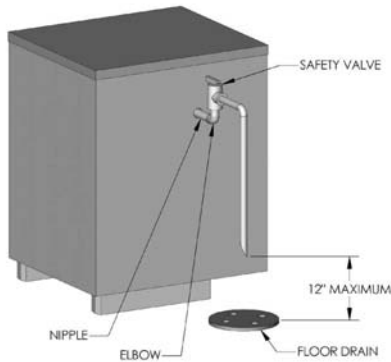

Figure 6.4
- a. Pipe the boiler safety valve provided into the 3/4" tapping on the left side of the boiler as shown in Figure 6.4. Be sure that the relief valve is sized in accordance with local code requirements. In addition, be sure that the safety valve is designed and stamped in accordance with the ASME Boiler and Pressure Vessel Code, Section IV.